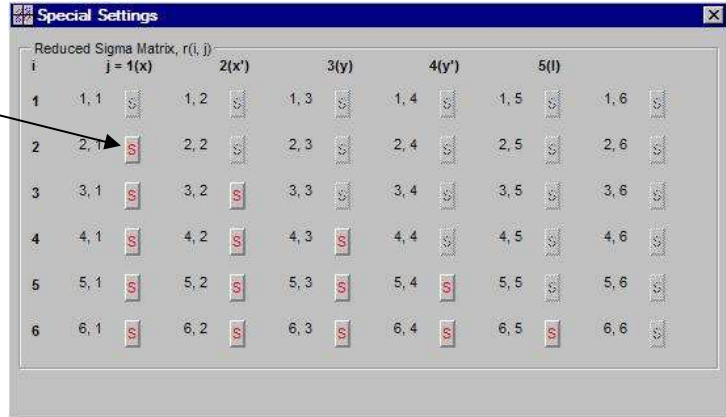

Figure 36. Special Settings window used to select individual correlation matrix elements for an OModule.
The button labeled “Special Settings” in the upper right corner of the Correlation Matrix window is used to access the Special Parameter Settings (“S”) buttons for each of the correlation elements. Selecting the Special Settings button opens the Special Settings window shown in Figure 36. This Special Settings window displays the “S” buttons for the Reduced Sigma Matrix, $r(i,j)$, with each button labeled by the corresponding i,j indices.
Syntax Specification Using Six (6) Semi-Axes Parameters (see Figure 34), Fifteen (15) Correlation Parameters (see Figure 36), and One (1) Global Parameter